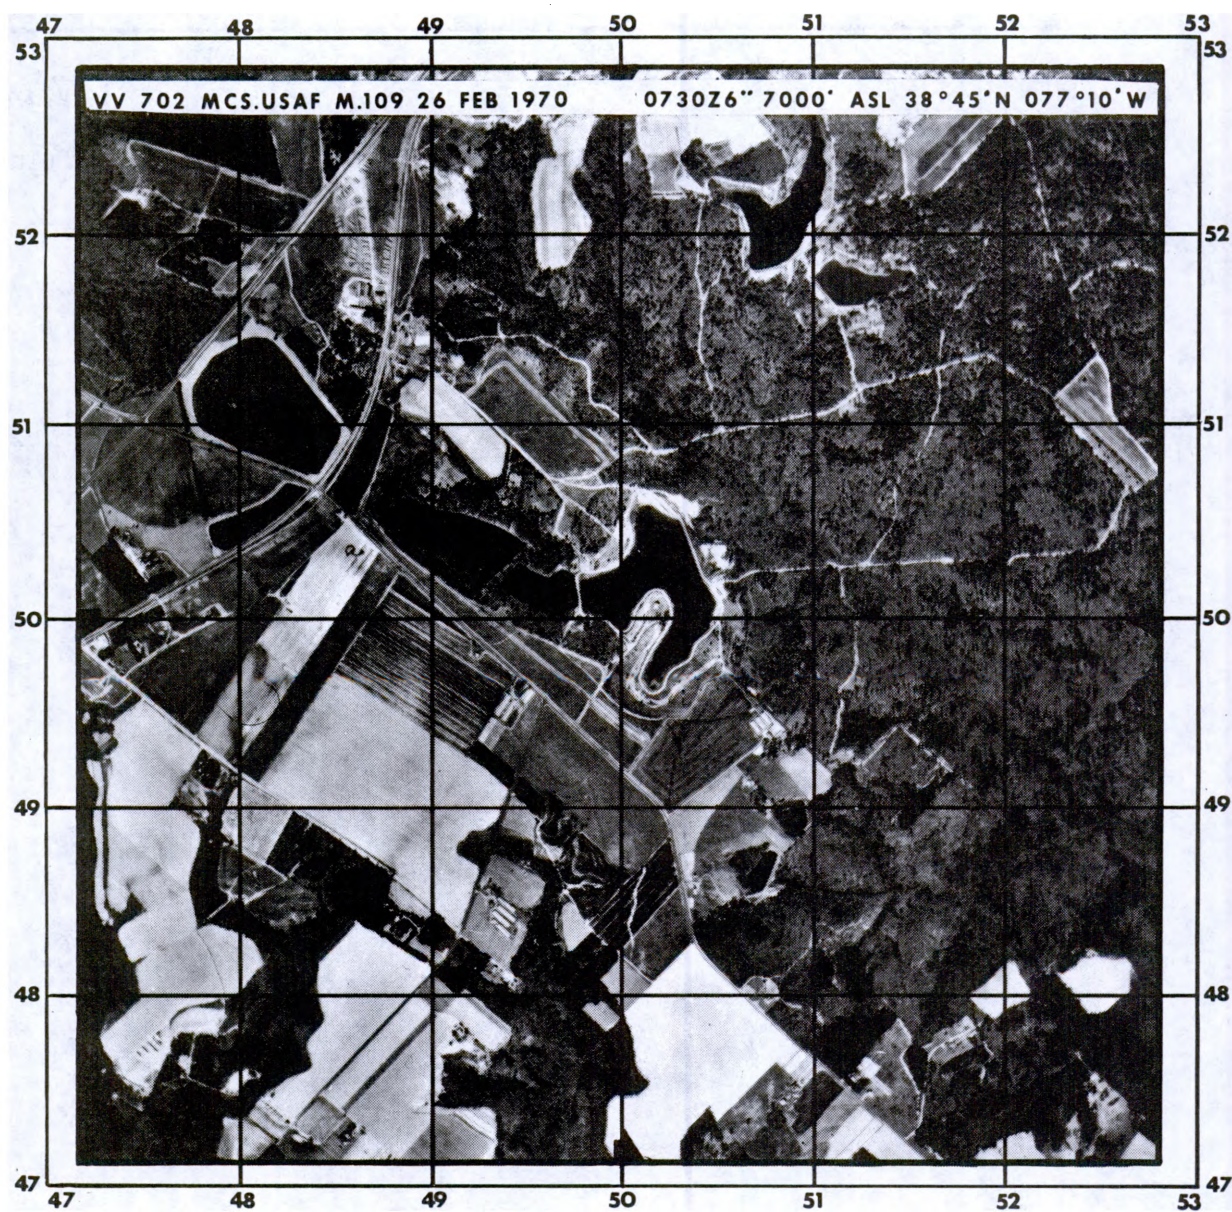

Figure 1
1. Orient the photograph so that the marginal information is in the normal reading position. (See fig. 1.)